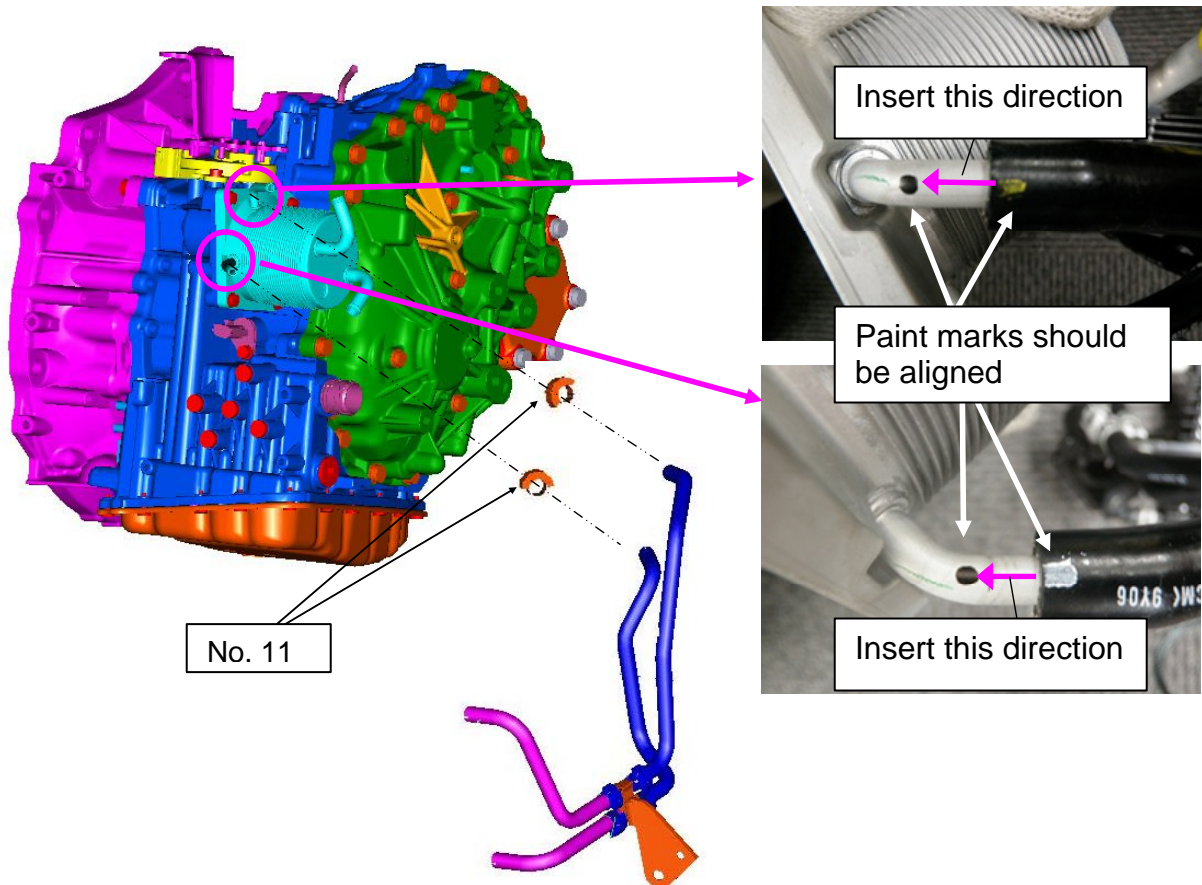

Figure 25
3. Place 2 new CLAMP-HOSE (spring clamp, No. 11) onto the hoses and install the cooler hoses (shown in blue, Figure 25) to the CVT Fluid Cooler.